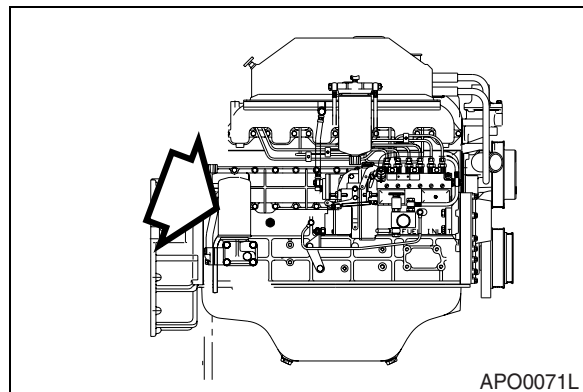

Figure 50
2. Replace engine oil filter (Figure 50). The engine oil filter is a spin-on type. Remove and discard filter.